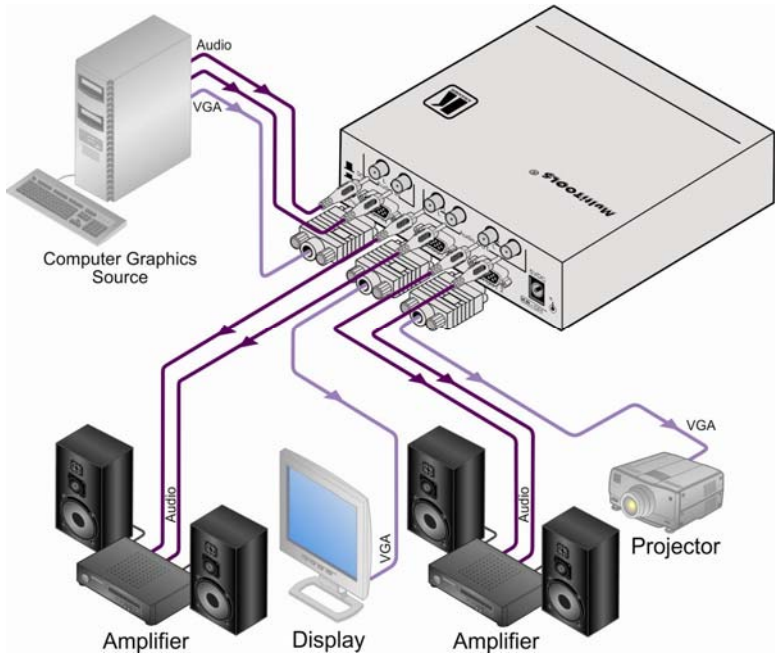

Figure 2: Connecting the VP-2K 1:2 UXGA/Audio Distributor
To connect the **VP-2K** as illustrated in the example in Figure 2:
3. Connect the 5V DC power adapter to the power socket and connect the adapter to the mains electricity (not illustrated in Figure 2).